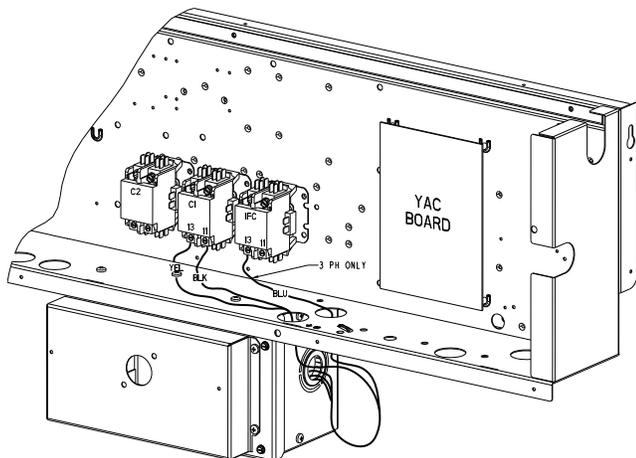

Fig. 26 — NFD Enclosure Location
2. Remove (3) hex screws on the NFD enclosure — (2) on the face of the cover and (1) on the left side cover. See Fig. 26.